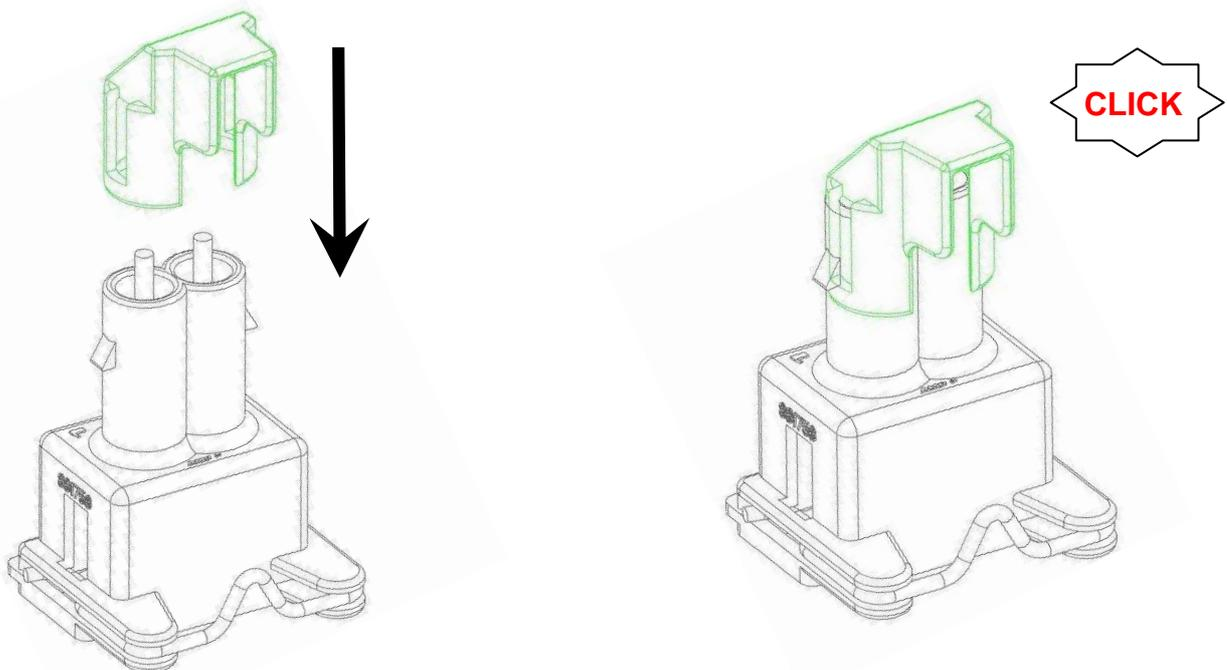

Figure 5
- 5.1 Insert the appropriate tool our PN (968107-1), see figure 5 to the relevant seats of the cavities, and then pull the contacts in the direction shown by the arrows.